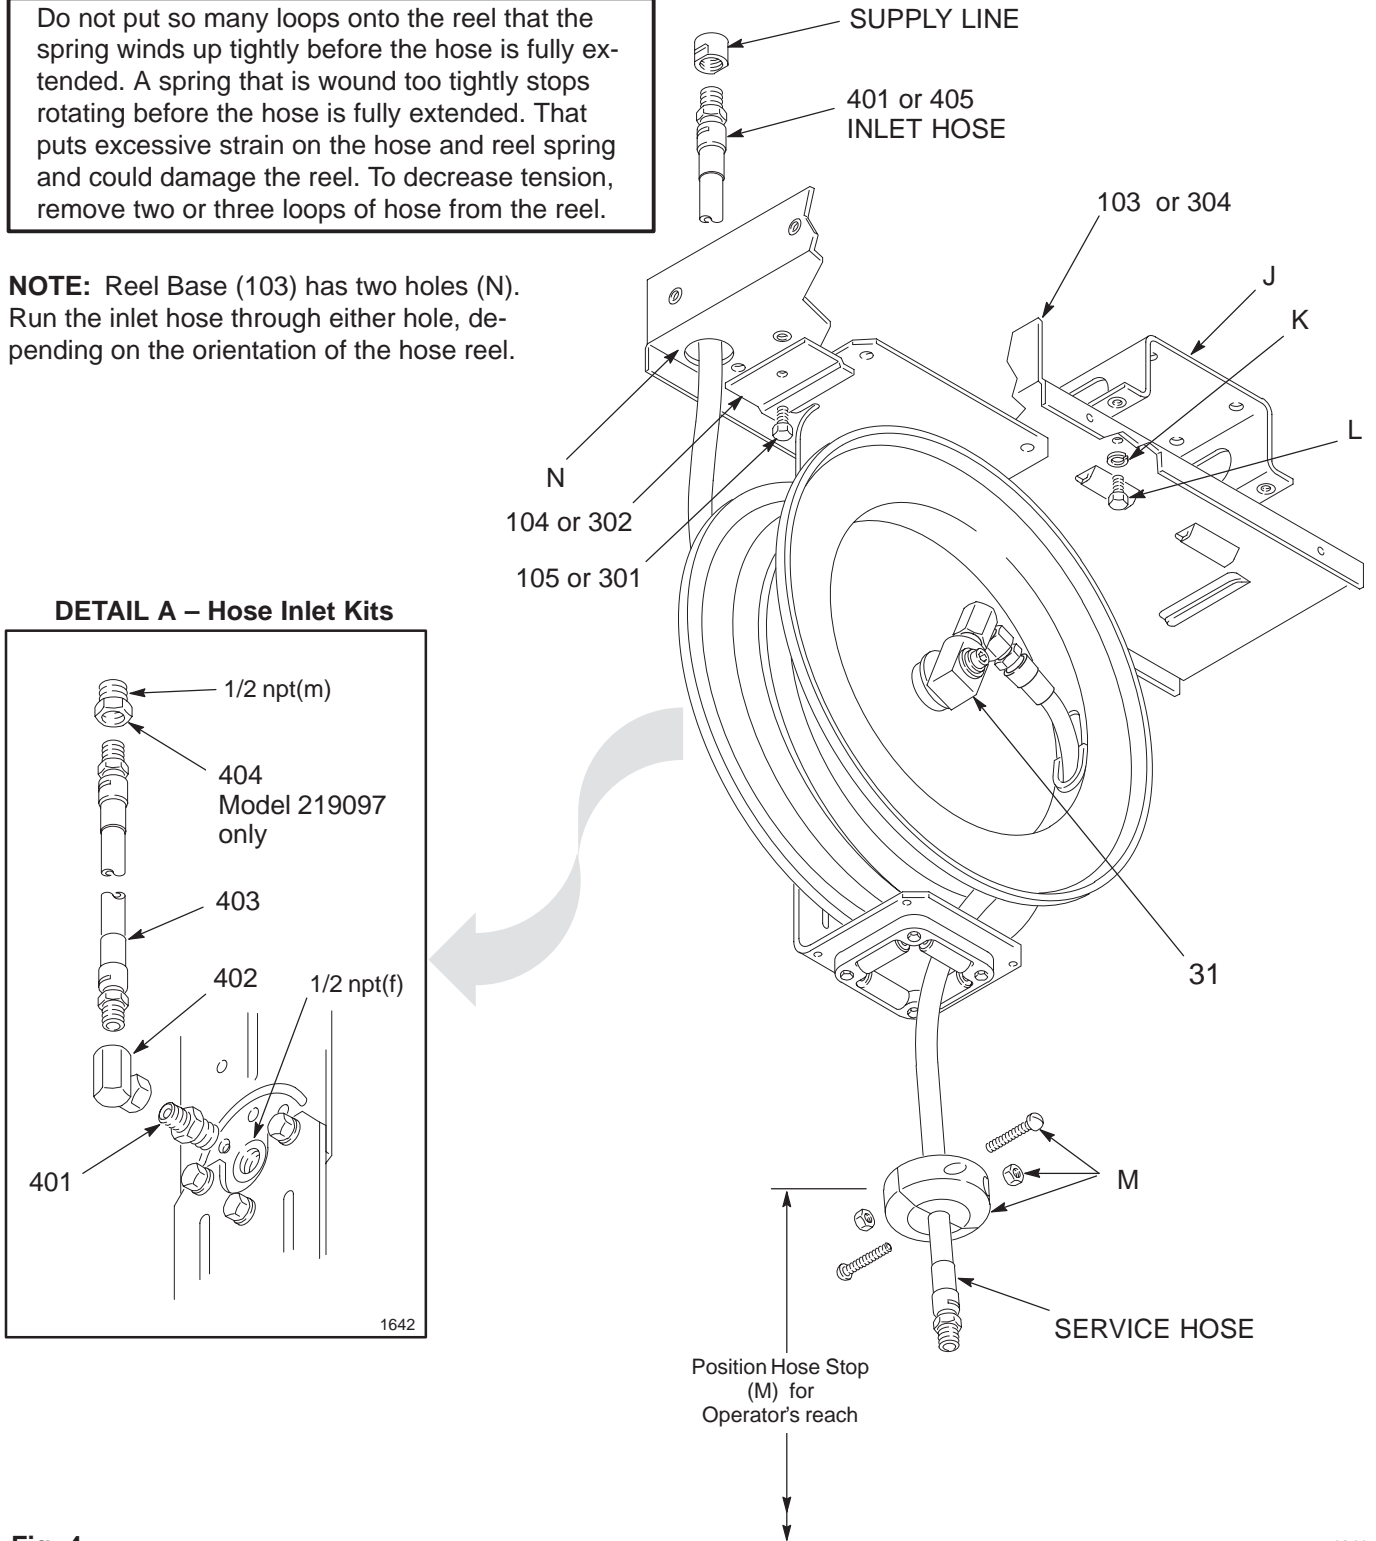

Fig. 4
If you are installing the hose reel enclosure, bolt the reel base (103 or 304) to the mounting channel (J), using the lockwashers (K) and screws (L) which are supplied with the mounting channel. See Fig. 4.
4. **Slide the hose reel onto the mounting base** and install the hold-down plate (104 or 302) and capscrew (105 or 301). Tighten the screw firmly. See Fig. 4.
NOTE: All other hose reels listed in this manual are supplied with a Hose Inlet Kit. Refer to Detail A in Fig. 4, and page 32.
If you are installing a hose on a bare reel, connect the service hose to the swivel (31). See Fig. 4. Then wrap the hose loosely around the flange. Extend the hose fully and latch it. Wrap one or two loops around the hose reel, then retract the hose again.